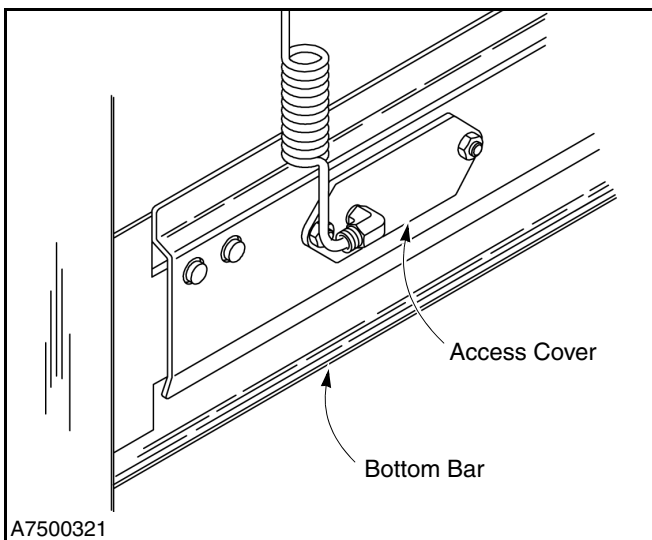

Figure 28
2. Remove the kill switch assembly access cover from the bottom bar. The kill switch is located on the same side as the door motor. (See Figure 28.)